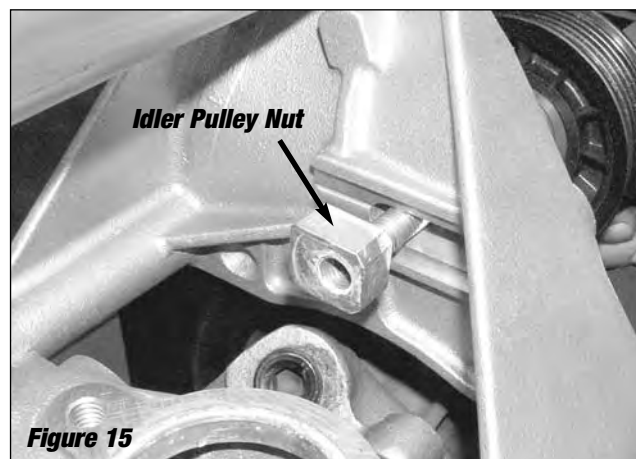

Figure 15
- B. Install the idler pulley onto the bracket. Use the remaining 3/8-16 x 4" long x 2.75" shoulder bolt, idler pulley spacer, and square idler pulley nut to attach the idler pulley to the bracket (**See Figure 15**). Make sure the nut is aligned with the slot on the back of the bracket.